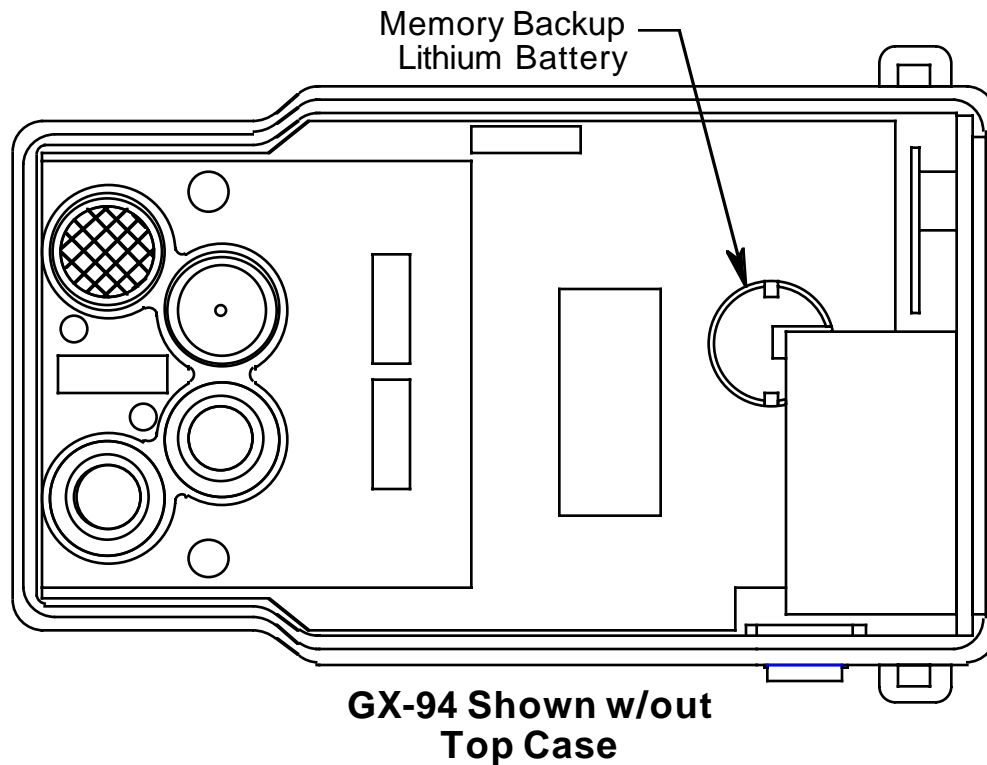

Figure 3: Lithium Backup Battery
2. Remove the four (4) phillips screws from the bottom of the instrument. (Two in the belt clip and two next to the label.)
4. Locate the lithium backup battery. Refer to Figure 3 above.